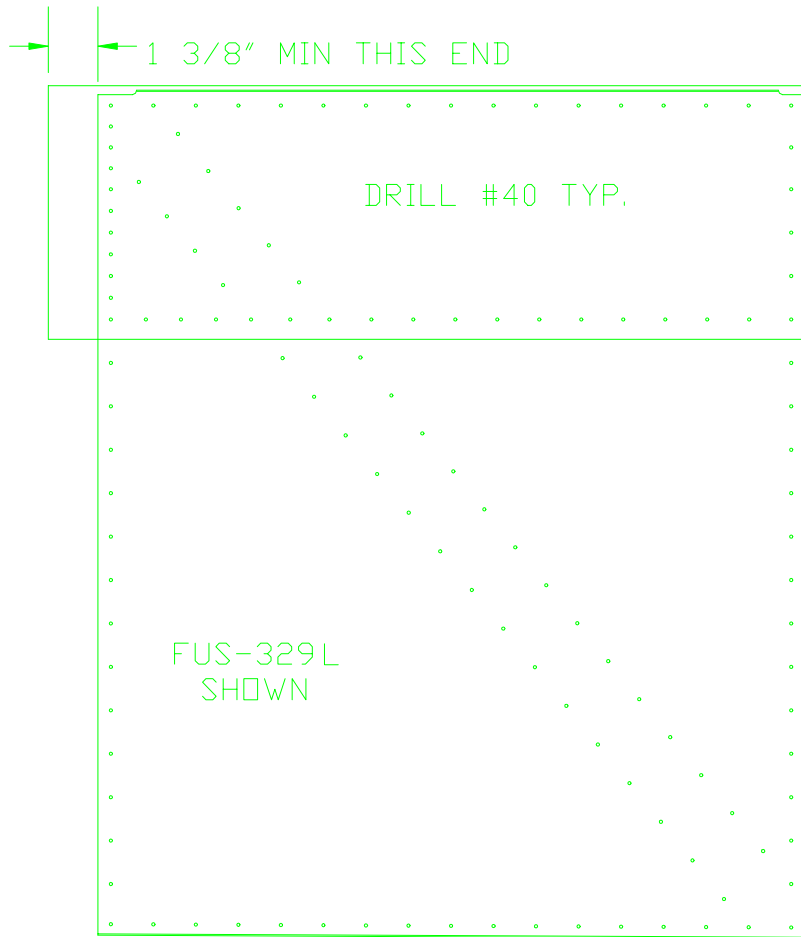

FIGURE 10
- 14) Place one doubler on the work bench with a FUS-329 front side skin over it with the flanges facing up. Back drill all holes to #40. Figure 10.